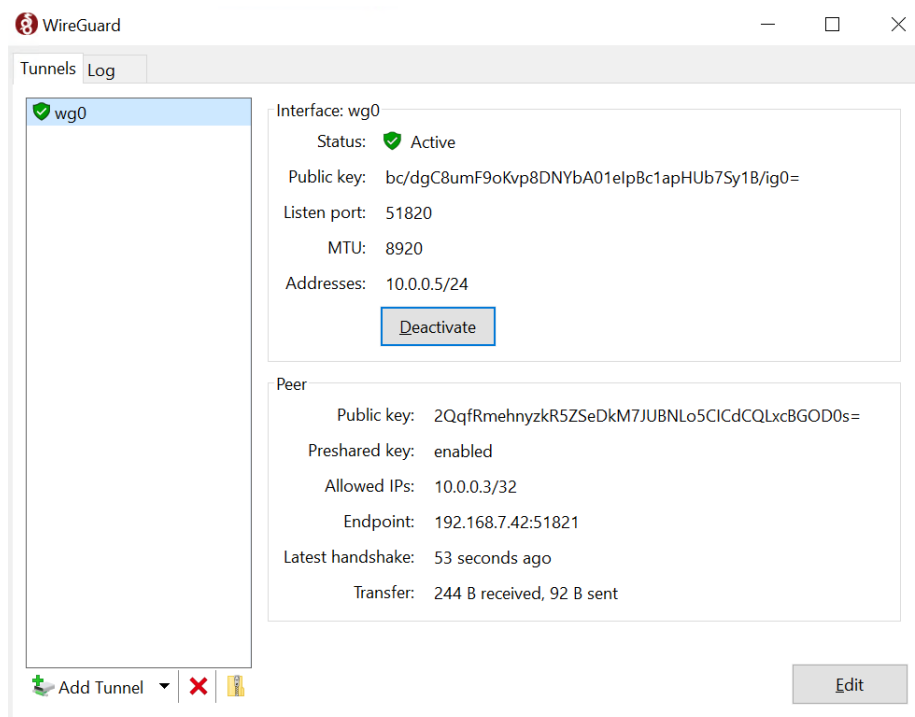

Figure 6 WireGuard Tunnel Handshake Successful
- 4) Once the tunnel is active, verify that the connection has been successfully established by checking the “Latest handshake” status. In the tunnel details panel shown in Figure 6